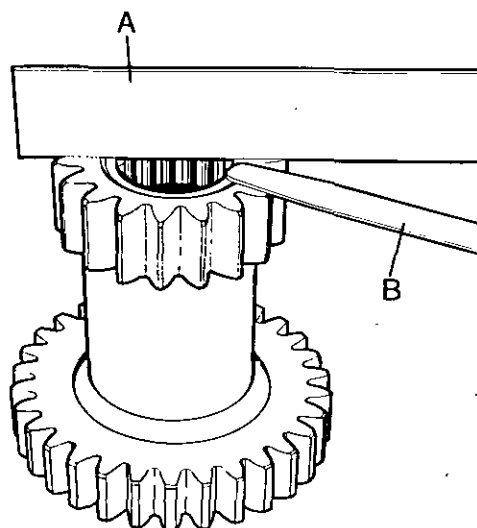

FIGURE 61. CHECKING BEARING CLEARANCE
3. Put a straight edge across the small gear as shown in Figure 61. Use a feeler gauge to measure the gap between the top bearing and the straight edge.